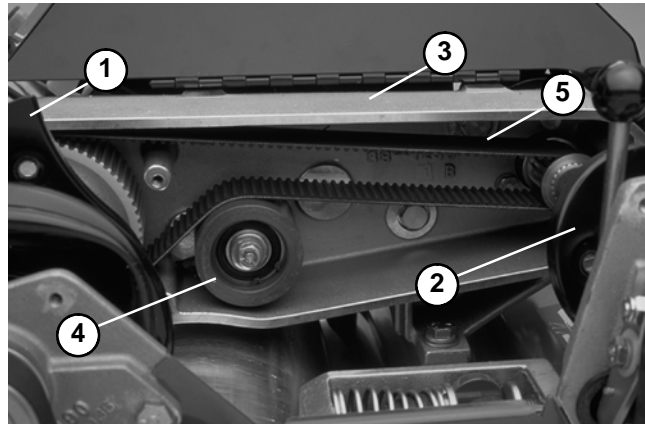

Figure 2
A. Remove capscrews securing the front and rear box covers to countershaft housing. Slide covers away from the housing to expose the belt (Fig. 2).
C. Pivot idler pulley clockwise against the backside of the belt until desired belt tension is attained. **Do not over tension the belt (Fig. 2).**
E. Reinstall box covers by placing the covers in position. While maintaining a slight gap between the cover seal and the side plate, install each cap screw until the threads engage in the insert. The gap will allow visual alignment of the cap screw to the threaded insert. After all cap screws are installed, tighten them until the stand offs inside the covers contact the side plate. **Do not overtighten (Fig. 2).**